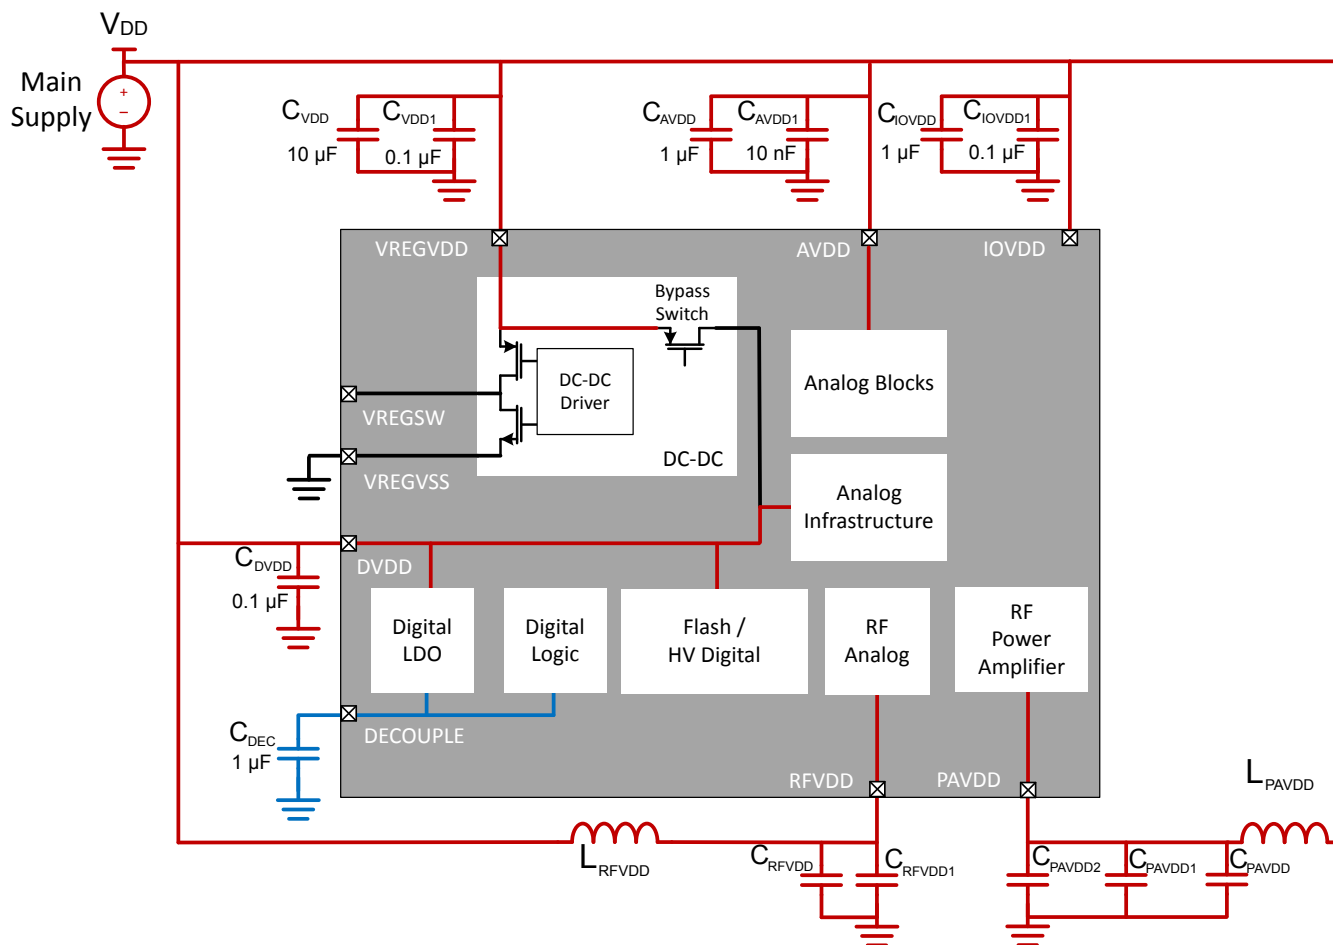

Figure 3.3. EFM32 and EFR32 Wireless Gecko Series 2 No DC-DC
- Updated language regarding L_{PAVDD} location in footnote of Figure 3.1 EFM32 and EFR32 Wireless Gecko Series 2 Standard Decoupling Example on page 15, Figure 3.2 EFM32 and EFR32 Wireless Gecko Series 2 Improved AVDD Filtering Example on page 16, and Figure 3.3 EFM32 and EFR32 Wireless Gecko Series 2 No DC-DC on page 17.